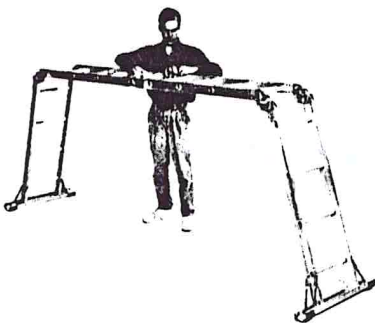

FIGURE 3.
- 3) Grasp middle rungs and lift and straighten as shown in figure 3. Lock the two center hinges.